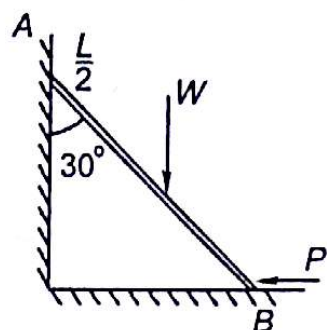

Fig. 9.36
9.5 A ladder of length L , weight W rests against a vertical wall and a smooth floor. A horizontal force P is applied on ladder to maintain its equilibrium. What is P in terms of W (Fig. 9.36)?